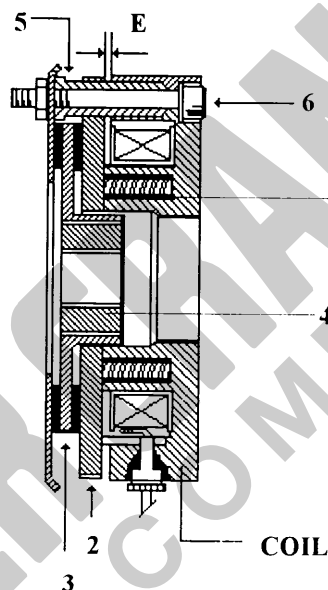

Figure 4-2
The airgap between the armature plates (2, Figure 4-2) and the motor head will require adjustment from time to time. This time interval will depend upon the frequency of operation and wear of the friction discs (3).